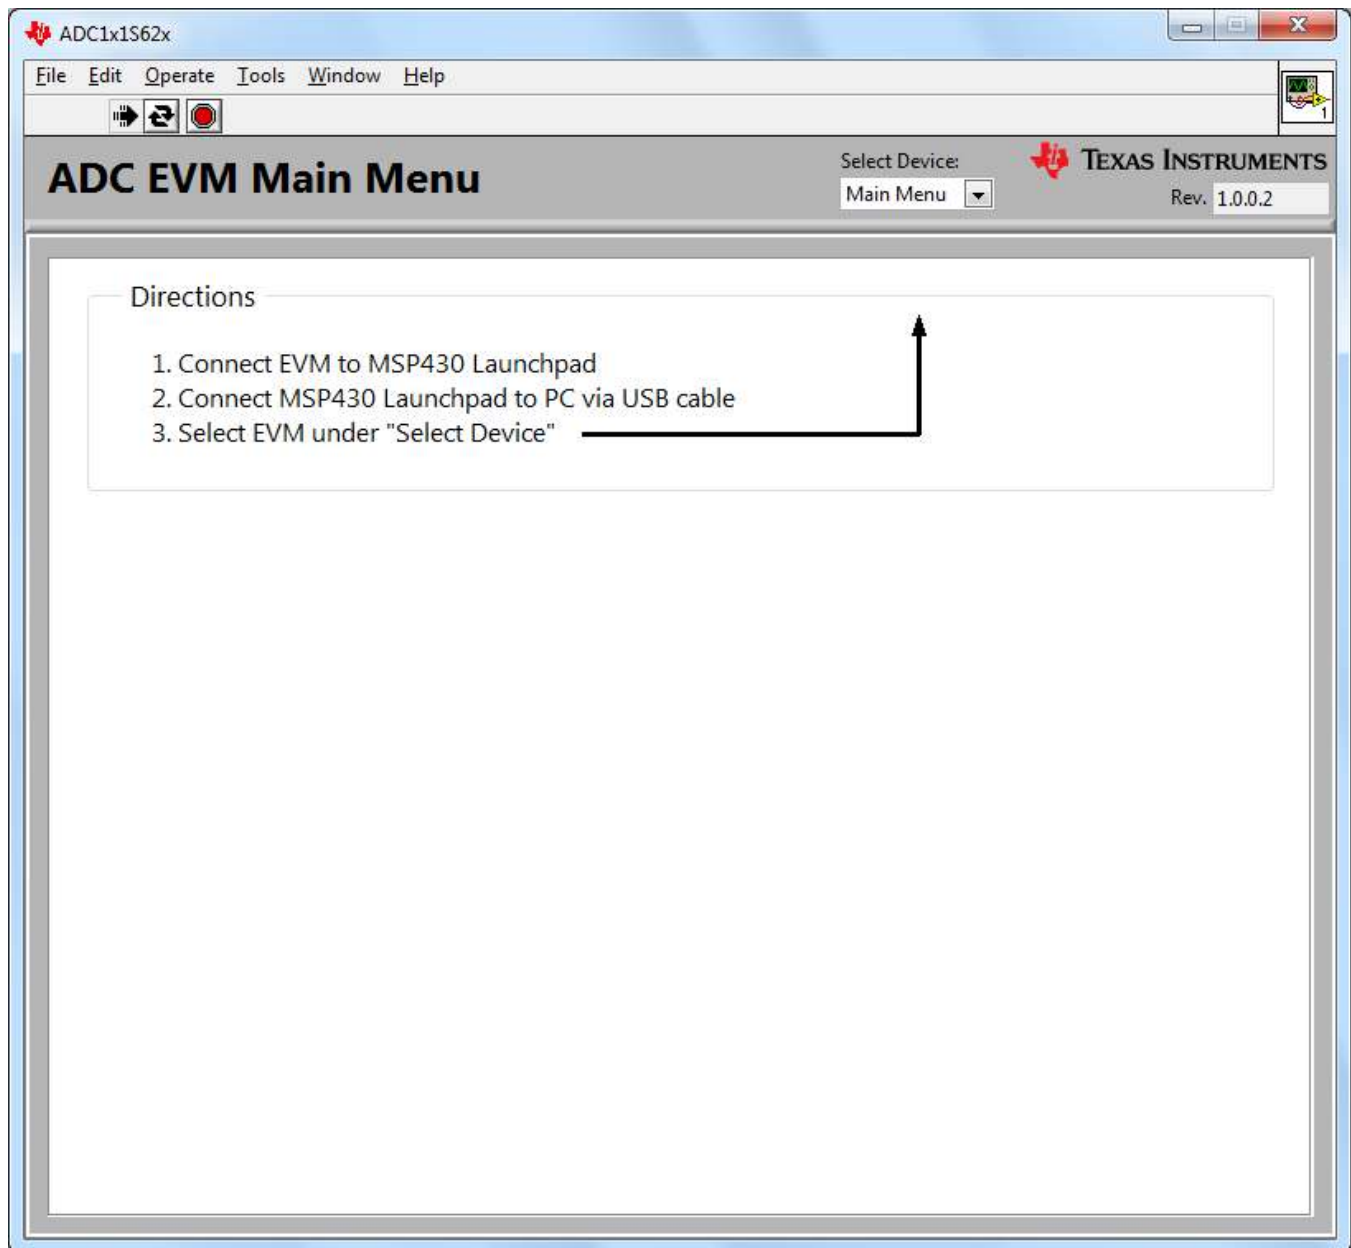

Figure 14. The Main Menu of ADC1x1S62x Software
1. The ADC161S626EVM GUI software is run by clicking on Start > All Programs > ADC1x1S62x. Launching the software takes the user directly to the GUI as shown in Figure 14. There is a pull down menu in which the user can select ADC161S626.